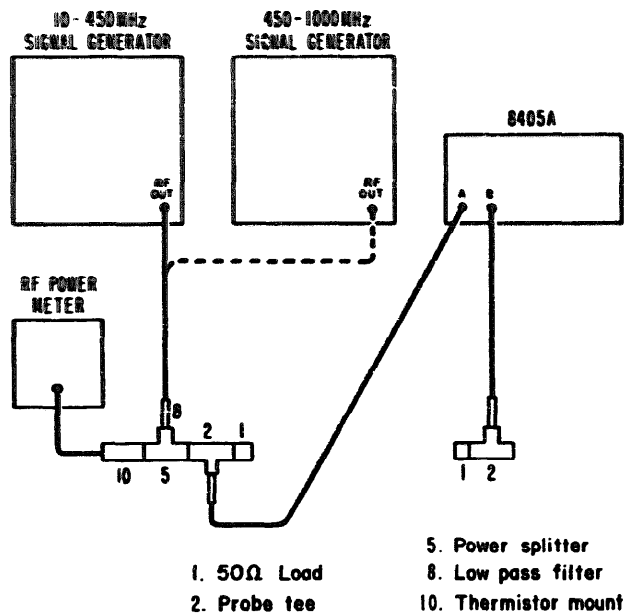

Figure 2J. Setup for RF Gain and Delay Line Adjustments
- a. Connect test equipment as shown in Figure 2J using the 10 - 450 MHz Signal Generator.**
- a. Using 1000 MHz Signal Generator, connect test equipment as shown in Figure 2J.
- g. Place Channel A Probe back in other Probe Tee and set up equipment as shown in Figure 2J.
a. Connect test equipment as shown in Figure 2J using the 10 - 100 MHz Signal Generator. Connect Channel B probe in place of Thermistor Mount.